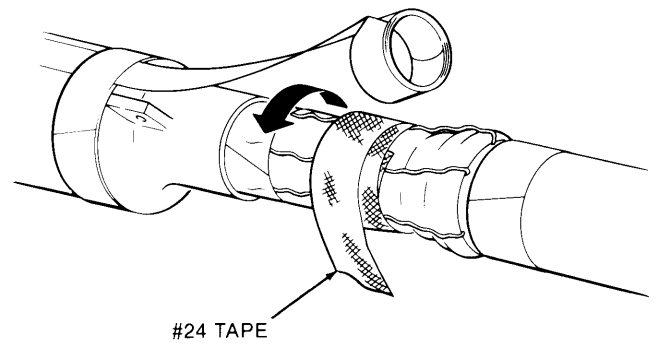

Figure 6
- c. Apply one complete length of #24 Metallic Shielding Tape (supplied) over ground wires directly beneath coil position (Figures 6 and 8).